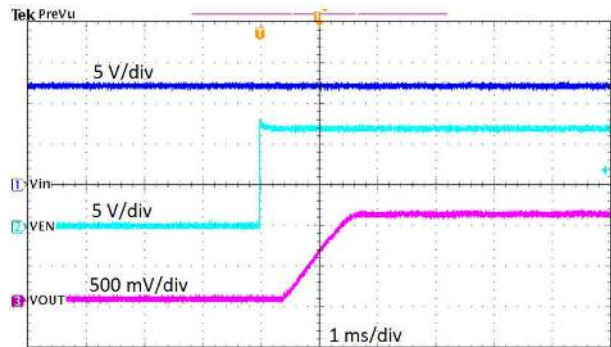

Figure 4-11. Start-Up Relative to EN
The TPS561201EVM-896 start-up waveform relative to enable (EN) is shown in Figure 4-11. Load = 1.05 Ω resistive.